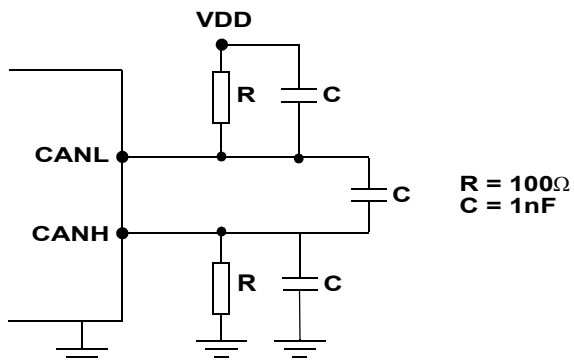

Figure 5. Test Circuit for AC Characteristics
- 27. AC Characteristics measured according to schematic Figure 5
28. AC characteristic according to ISO11898-3, tested per figure 5 and 6. Guaranteed by design, room temperature only.